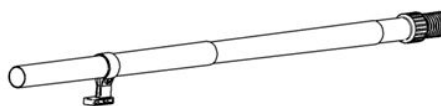

Figure 4
8. See Figure 4. Connect the hose adapter to the wand. Make sure that the wand with parking hook is not connected directly to the hose with adapter.